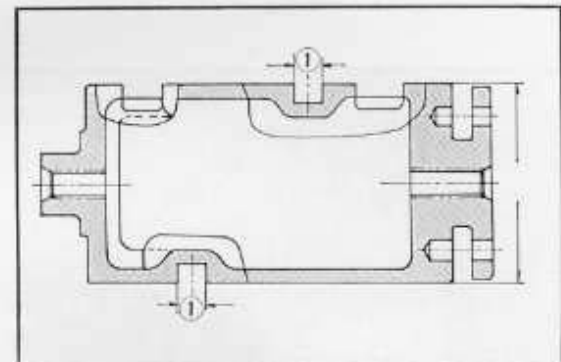

Fig. 3.101 Shift drum groove
7. Shift drum groove (Fig. 3.101)